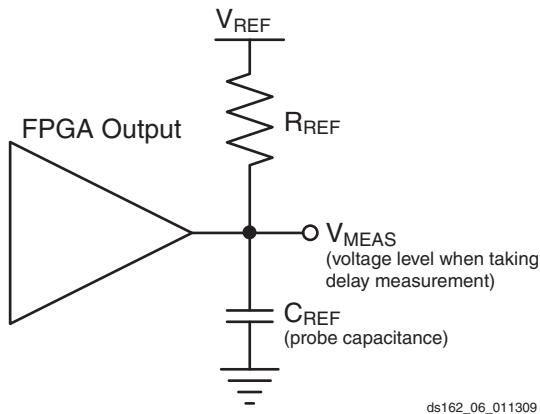
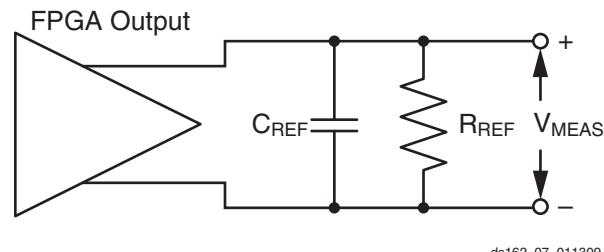

Figure 6: Single-Ended Test Setup
Figure 7: Differential Test Setup
4. This is an input voltage reference that bears no relation to the V_{REF} / V_{MEAS} parameters found in IBIS models and/or noted in Figure 6.
Output delays are measured using a Tektronix P6245 TDS500/600 probe (<1 pF) across approximately 4" of FR4 microstrip trace. Standard termination was used for all testing. The propagation delay of the 4" trace is characterized separately and subtracted from the final measurement, and is therefore not included in the generalized test setups shown in Figure 6 and Figure 7.